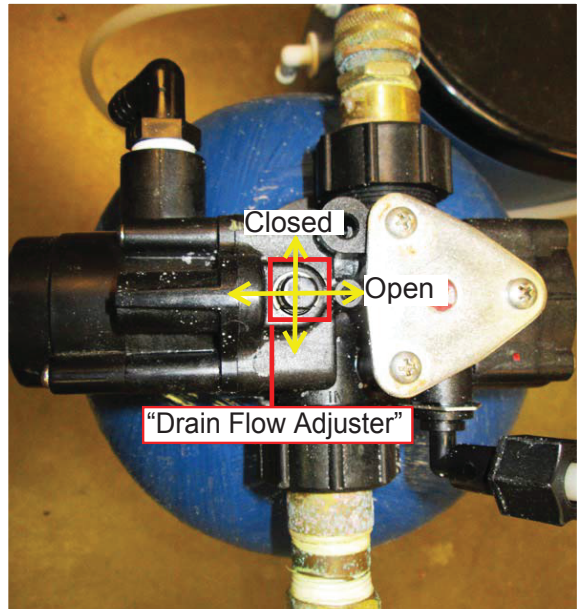

Figure 122. Drain Flow Adjuster
If the brine waste-water is flowing too fast, water is wasted; or too slow, brine solution draw is reduced. The Drain Flow Adjuster shown in Figure 122 can be adjusted to vary the brine waste-water flow rates. For most applications, this Drain Flow Adjuster should be left to the FULL OPEN, or WIDE OPEN, position.
14. After the 2 hour regeneration cycle, the manual timer will move to the 'OFF' position (see Figure 122). In the 'OFF' position, the following changes occur:
With the drain flow adjuster (see Figure 122), you can adjust the water flow to drain during regeneration.